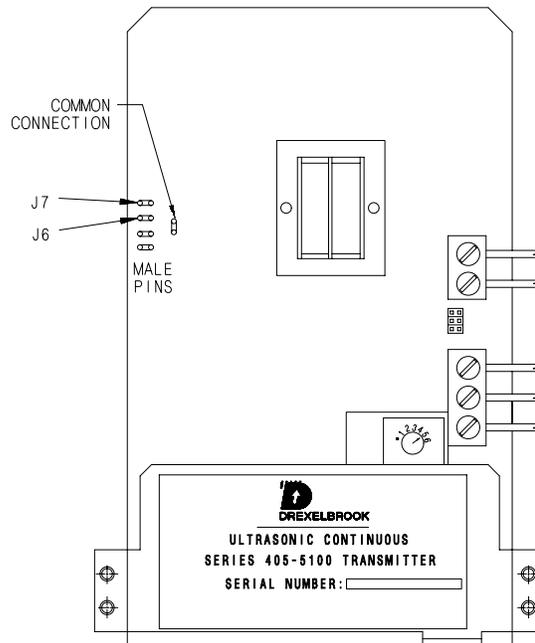

Figure 4-3
- d. Connections are made to the transmitter using female connectors to J4, J5, J6, J7 and common connection, as shown in *Figure 4-3*.